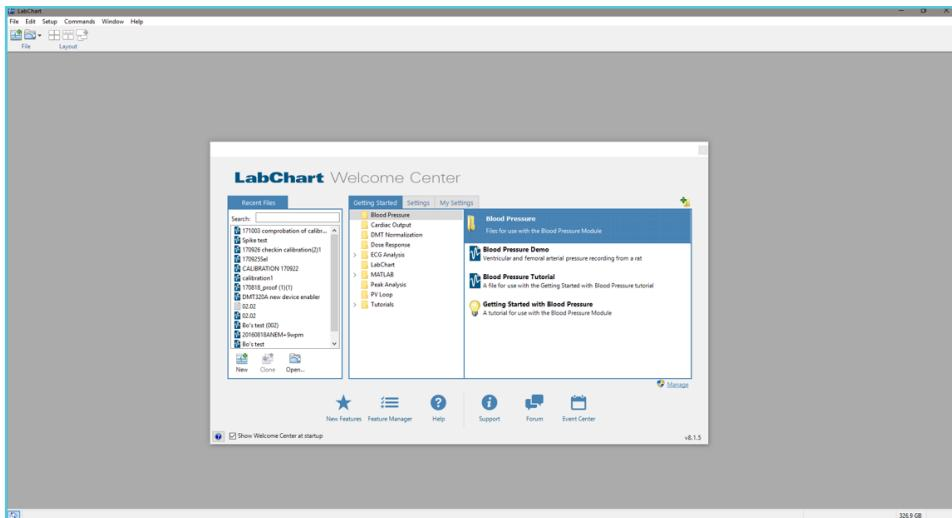

Figure 82.
8. The Labchart Welcome center will turn up. Close it (figure 82).